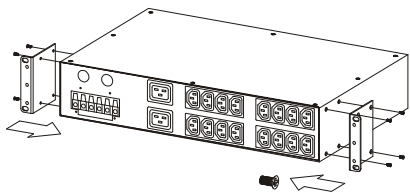

Figure 1
1. Affix the two included backplates to the ATS as shown in Figure 1.